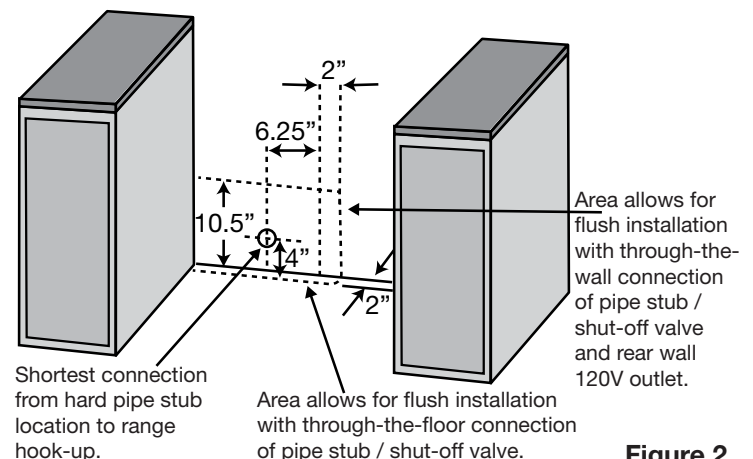

Figure 2
- Gas supply should be located near the opening for this appliance (see Figure 2):